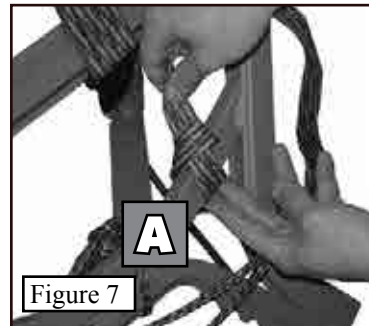

Figure 7
Step 2. Place the looped end of the 1" wide strap around the stand tubing (A) and bring the loose end back through the loop as shown in **Figure 7**. Repeat for other side.